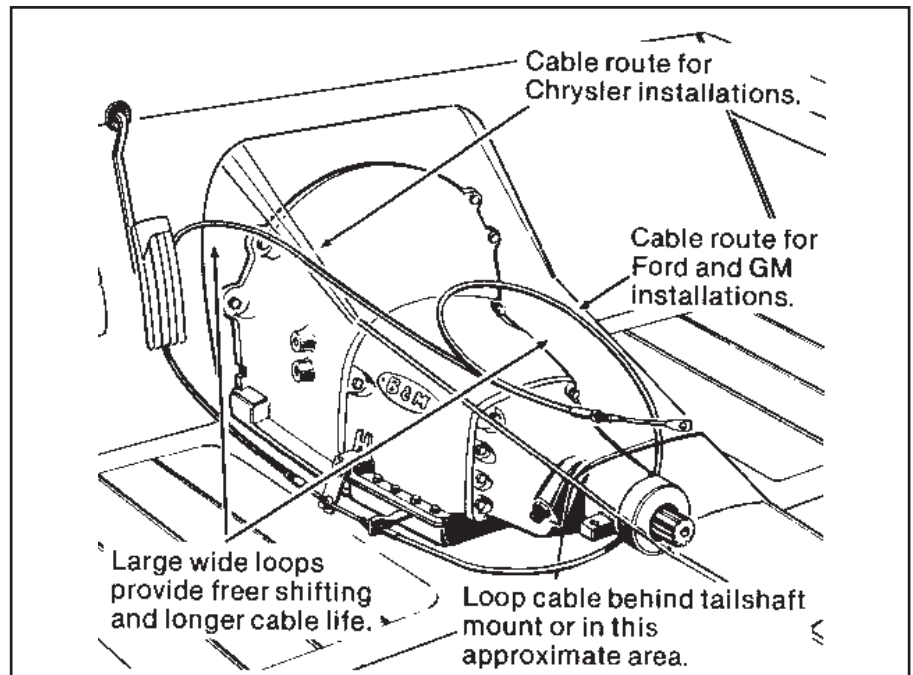

Figure 4
STEP 10. Install shifter mechanism into vehicle. Slide shifter cable through carpet and hole in floor. Bolt shifter down using four 1/4-20 x 1-1/2" full thread hex screws, nuts, lock washers and flat washers. If the mounting bracket does not sit flat of the floor, the tabs at the end of the mounting bracket can be bent so that they will fit the floor. **ROUTE CABLE AS SHOWN IN FIGURE 4, AVOID SHARP BENDS WHICH WILL KINK AND DAMAGE CABLE.** Use cable clamps or tie wraps to secure the cable housing to chassis to avoid contact with hot engine or exhaust system.
STEP 12. Route the shifter cable according to **figure 4**. Avoid kinks and sharp bends and route the cable away from hot engine or exhaust parts.
STEP 18. Route the shifter cable according to **figure 4** Avoid kinks and sharp bends and route the cable away from hot engine or exhaust parts.
STEP 23. Route the shifter cable according to **figure 4**. Avoid kinks and sharp bends and route the cable away from hot engine or exhaust parts.